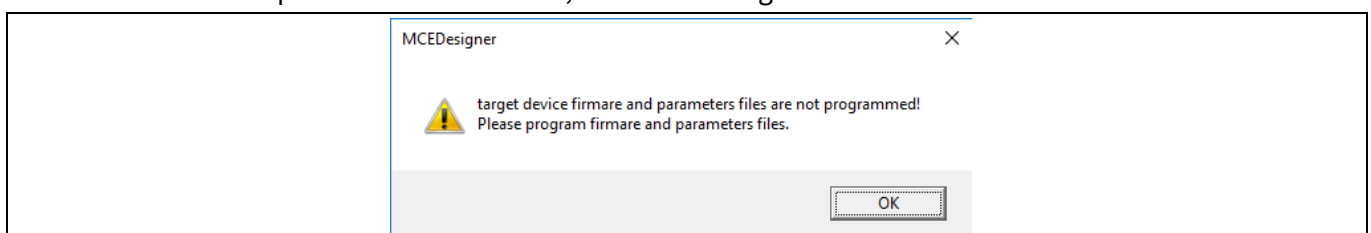

Figure 13 MCEDesigner warning message
4. In case of a blank IC: If the firmware has been erased from the IMD112T-6F040, the following warning message will pop up “Target device firmware and parameters file are not programmed! Please program firmware and parameters file” as shown in Figure 13. Then you can program the firmware and parameters as described in Step 5. If it is not a blank IC, no such message will be indicated.